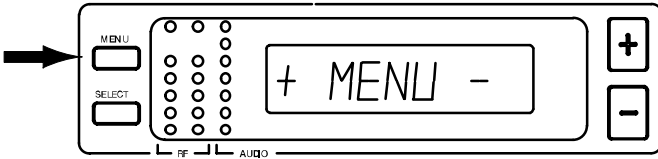

FIGURE 29
- Press the MENU button. The "+ MENU –" display appears, as shown in Figure 29.